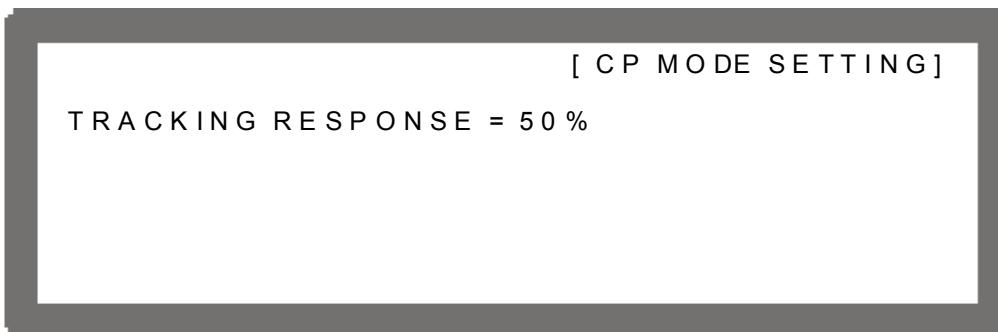

Figure 4-25
The TRACKING speed can be set in CP\_TRACKING MODE. Select CP\_TRACKING MODE (see Figure 4-25).
1. Use the numeric (0-9) keys or the “Rotary” (◎) knob to set the value. The input range is 1-100 as shown in Figure 4-25. The smaller the number the slower the response speed but the higher the stability.